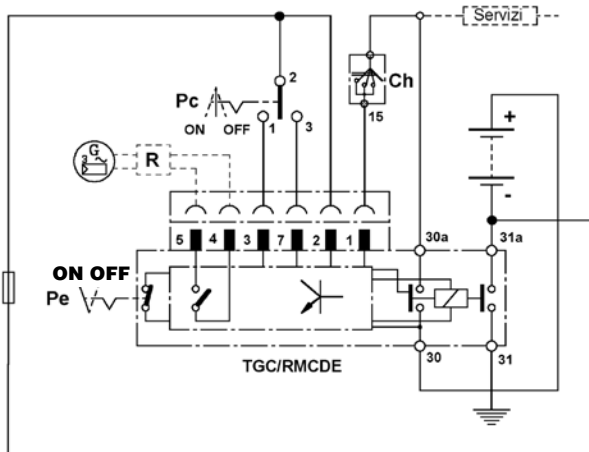

Figure 1 - Normal connection
| Figure 1 Standard connection | 5 |
- For connection of the TGC/RMCDE use diagram as in **Figure 1** and harness (if provided).
- Harness (if supplied) must be connected according to **Table 1** below , as shown in connection diagram (**Figure 1**).
The following table describes possible faults after connecting the device as in **Figure 1**.
The connection diagram shown in **Figure 1** may not be sufficient for certain types of circuits on specific vehicles or for special circuits requested by customers/drivers.